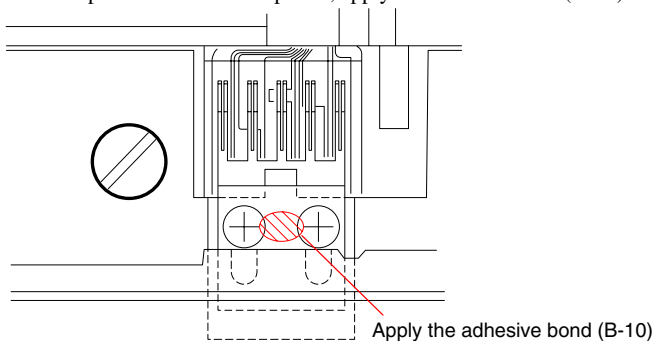

Fig. 4-7-9
- 6) After the pattern check is completed, apply the adhesive bond (B-10) as shown in Fig. 4-7-9.